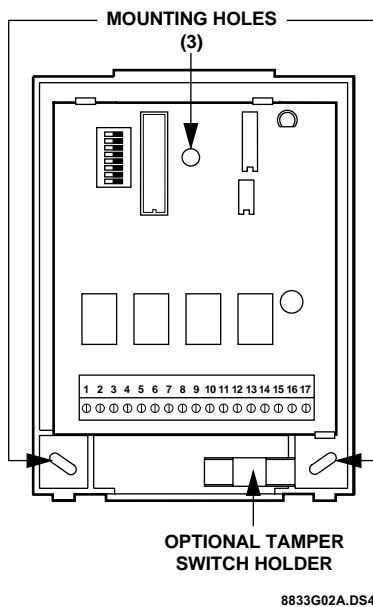

Figure 3. Mounting Holes
3. Place the back plate inside the cabinet at the lower-right corner and mark the mounting holes (Figure 3).
3. Place the back plate on the wall and mark the mounting holes (Figure 3).
The tamper switch holder is located at the lower-right side of the back plate as shown in Figure 3. The plastic cover holds the magnet.